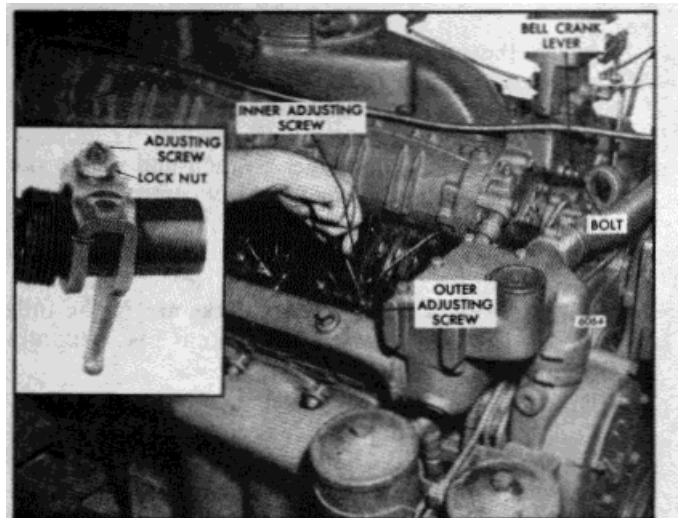

Fig. 2. - Positioning No. 1R Injector Rack Control Lever
5. Place the bolt (removed from the lower end of the vertical link) through the bell crank and into the recessed hole in the drive housing (Fig. 2).
6. Adjust the No. 1R injector rack by tightening the adjusting screw until the injector rack clevis is observed to roll up or an increase in effort to turn the screwdriver is noted (Fig. 2). Tighten the screw approximately 1/8 of a turn more and lock securely with the adjusting screw locknut. This will place the No. 1R injector rack in the full-fuel position.